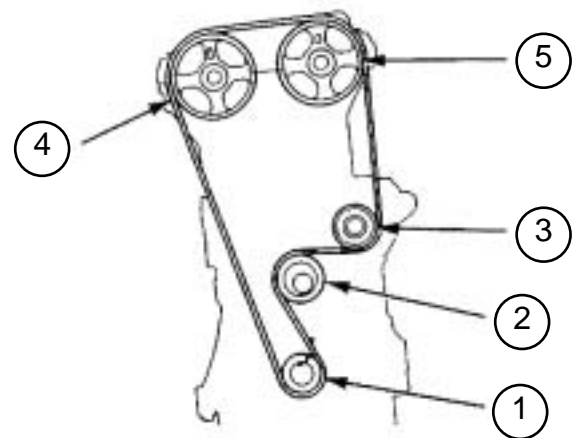

Figure 2
3. Install the timing belt tightly in the sequence shown in Figure 2.